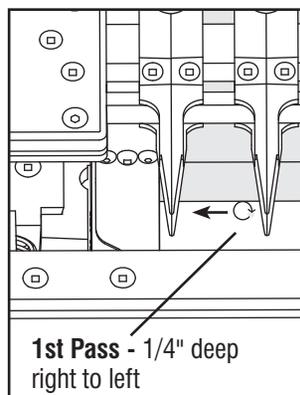
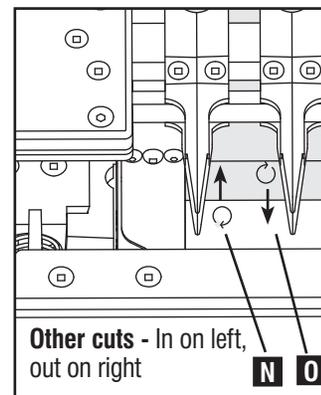
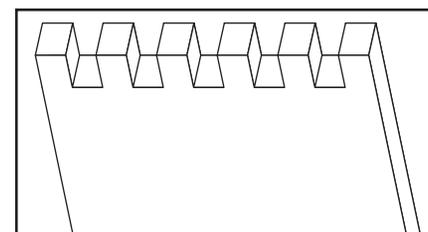

Fig. I10
Fig. I11
Fig. I13
- 9 To reduce tearout, the first pass (Fig. I10) of each area to be cut should be from right to left. Only a light cut is required, no deeper than a 1/4" for example. For proceeding cuts (Fig. I11), the router should enter from the left (N) and exit from the right (O). continue until cutting is complete and the final cut should resemble Fig. I13.